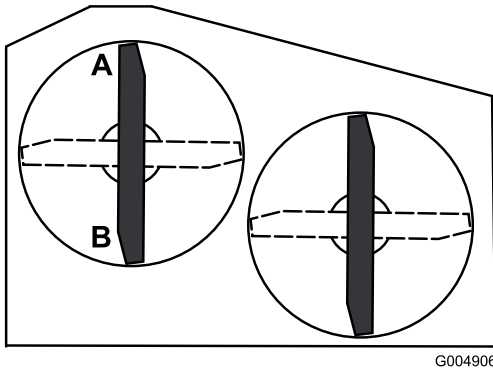

Figure 60
2. Position one blade front-to-rear. Measure at **A** and **B** locations from a level surface to the cutting edge of the blade tips (Figure 60).
4. Position the blades front-to-rear. Measure at C and D locations (Figure 60) from a level surface to the cutting edge of the blades.